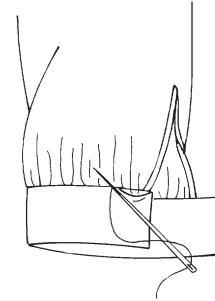

Fig. 11-10
- 9. Fold the cuff to the wrong side of the sleeve, matching the folded edge of the cuff to the seam that joins the cuff to the sleeve. Slipstitch along the seam line from the inside of the sleeve. (Fig. 11-10)